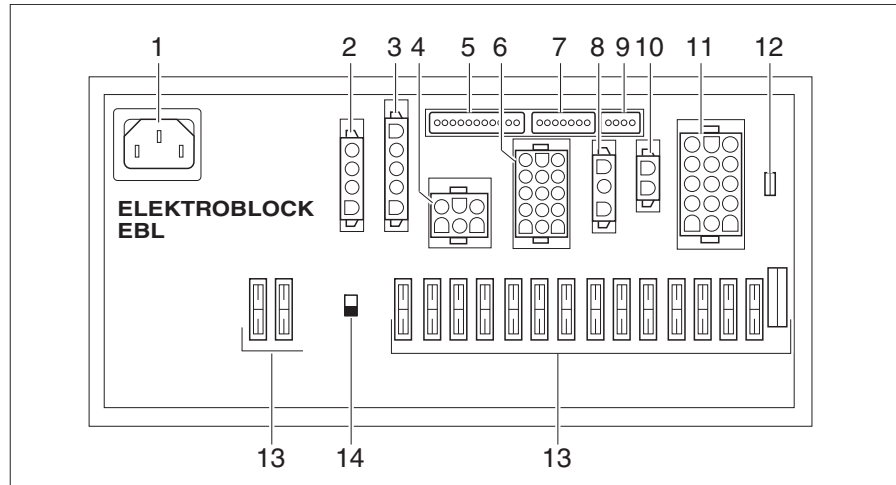

Fig. 246 Transformer/rectifier (EBL 102)
Location Depending on the model, the transformer/rectifier (Fig. 246) is installed in the seat console under the driver's seat or in the garage or bar seating group (Globe-line).
- ▷ The battery cut-off switch (Fig. 246,14) disconnects all the appliances that are connected to the transformer/rectifier from the 12 V network.